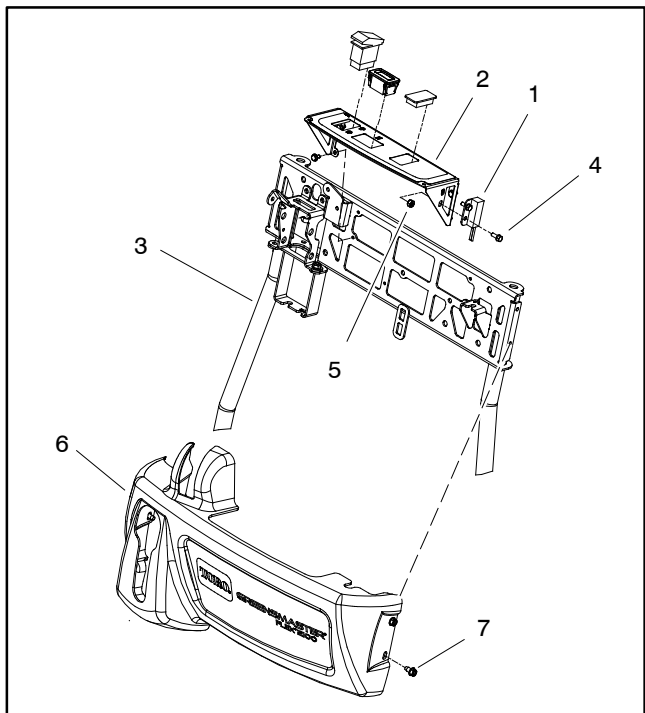

Figure 10
2. Remove console cover from handle to allow access to parking brake latch switch (Fig. 10).
2. Remove screws and lock nuts that mount switch to switch panel on handle (Fig. 10). Remove switch from machine.
3. Position switch to switch panel and secure with screws and lock nuts (Fig. 10).